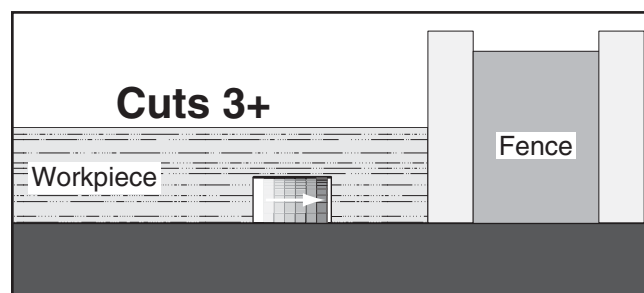

Figure 67. Additional single blade dado cuts.
9. Make additional cuts (see **Figure 67**) in the center of the dado to clear out the necessary material. The dado is complete when the channel is completely cleared out.